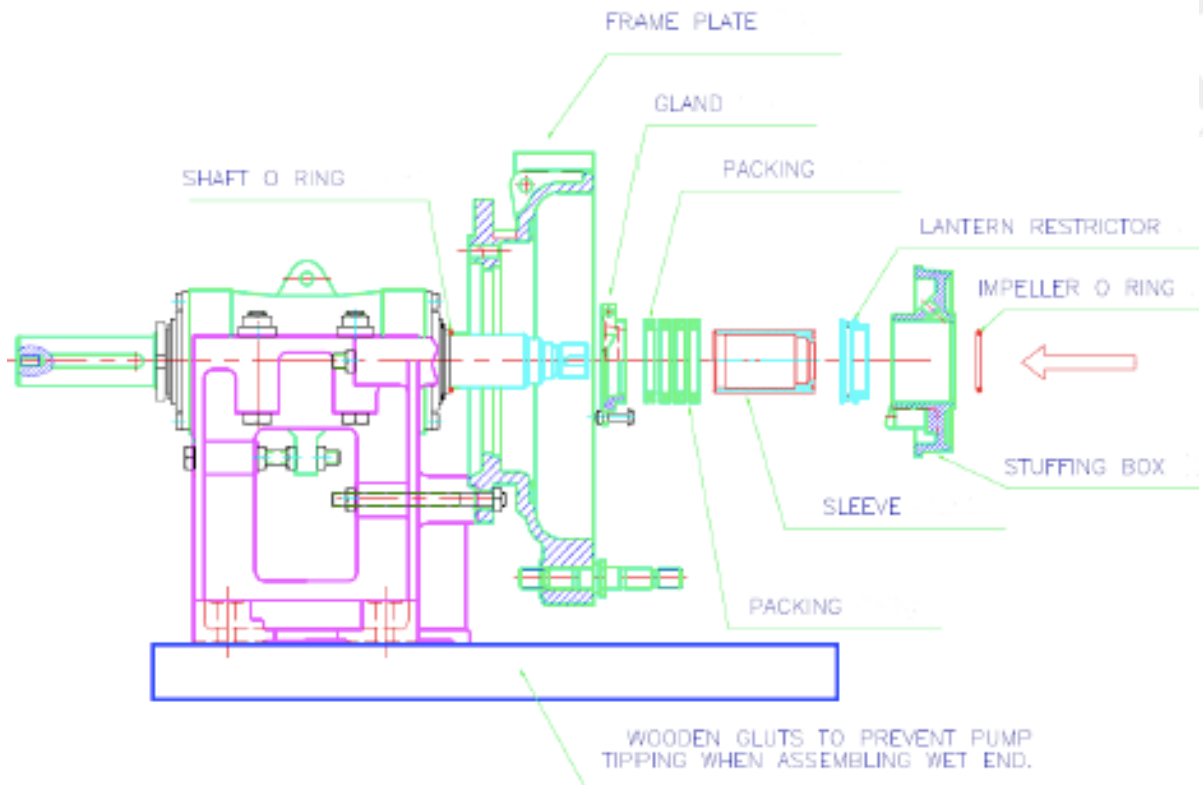

Figure 3- Stuffing Box Seal Assembly
4.2.1 GLAND SEAL ASSEMBLY - Refer Fig 3/4/5/6